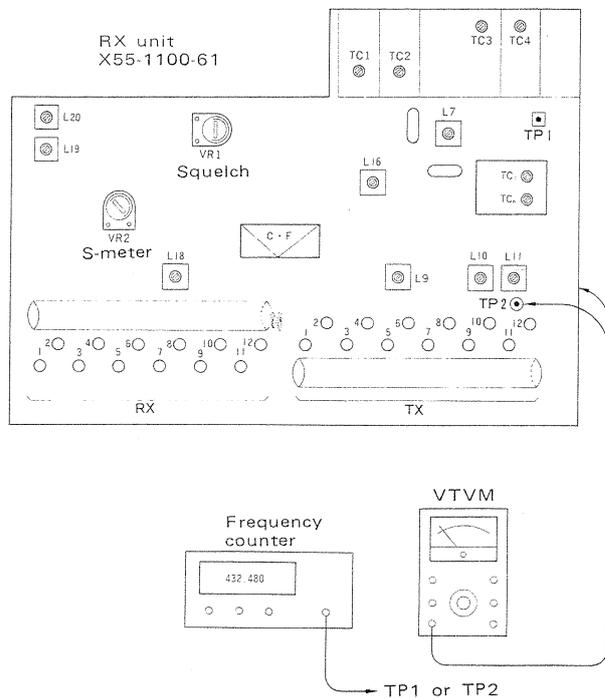

Fig. 6 RX Unit
1. First remove the case, and cable to the power supply. Connect the RF VTVM to TP2 on the RX unit (X55-1100-61) as shown in Fig. 6.